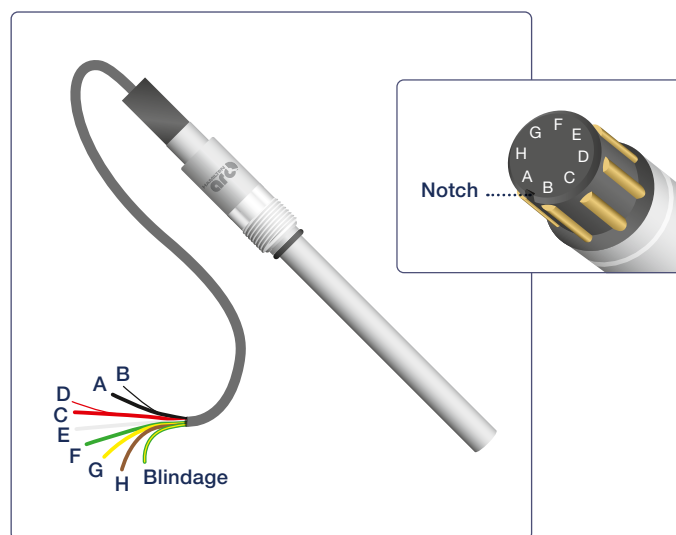

Figure 7: Requirements for electrical connection of VisiTrace RS485 sensors.
- 3) The ArcAir application (see Figure 7) recognizes and displays the connected sensors automatically